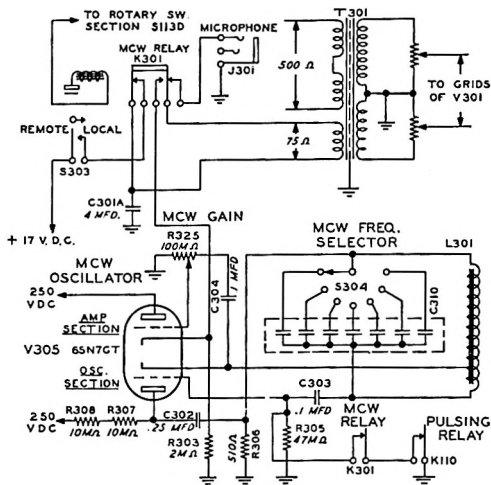

Figure 16. MCW Oscillator - Amplifier
3.2.1. Power Line. The transmitter requires a 230-volt 50/60-cps 3-phase power source. The power lines should be brought in through a conduit and in such a manner that the leads can be brought up through a grommet in the base of the power rectifier unit. Refer to figure 16.